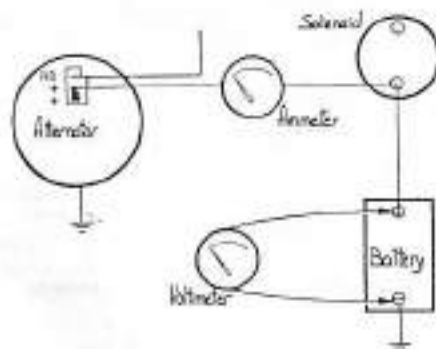

Fig. 83—Voltage regulator can be checked as shown. Refer to text.
**135.** The voltage regulator setting can be checked as follows: Disconnect the battery ground cable, disconnect the main feed wire from alternator to starter solenoid, then connect an ammeter between alternator wire and solenoid terminal as shown in Fig. 83. Connect a voltmeter across the battery terminals, reconnect battery ground cable, then start engine and run at